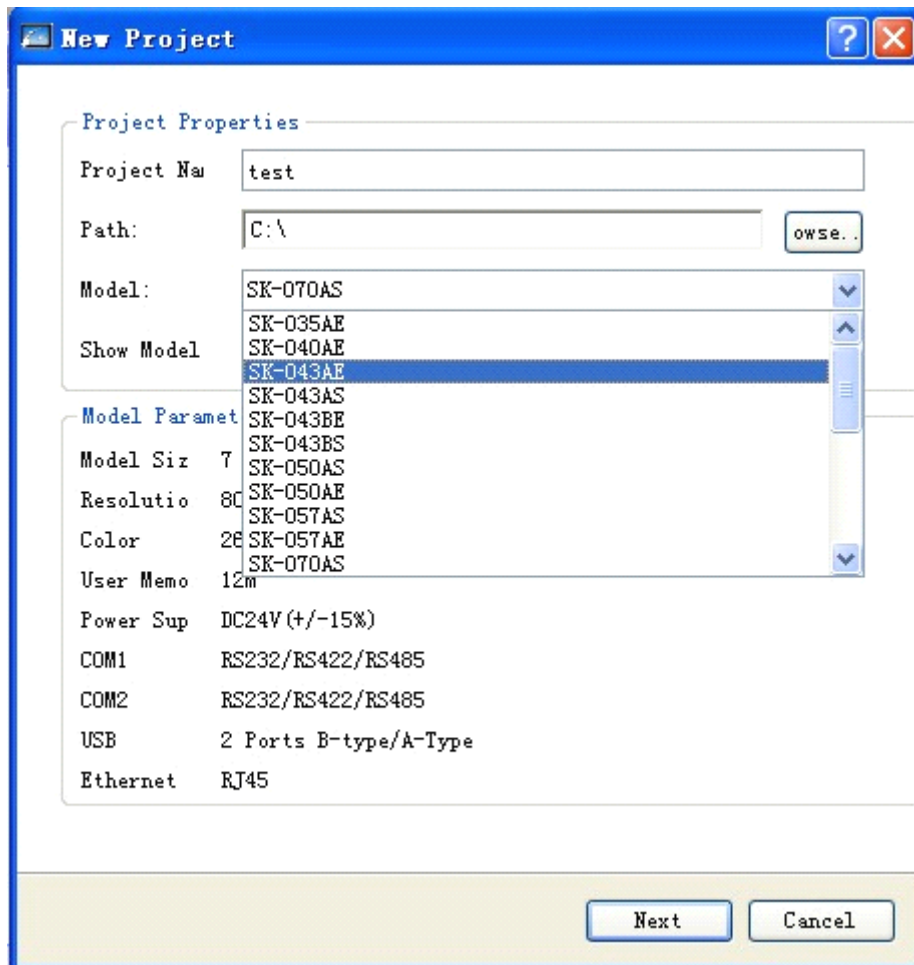

Figure 6-3 Dialing box of new project
- √ Select the icon  for new item or "File" – "New Project" in menu bar to pop up the dialog box as shown in figure 6-3.